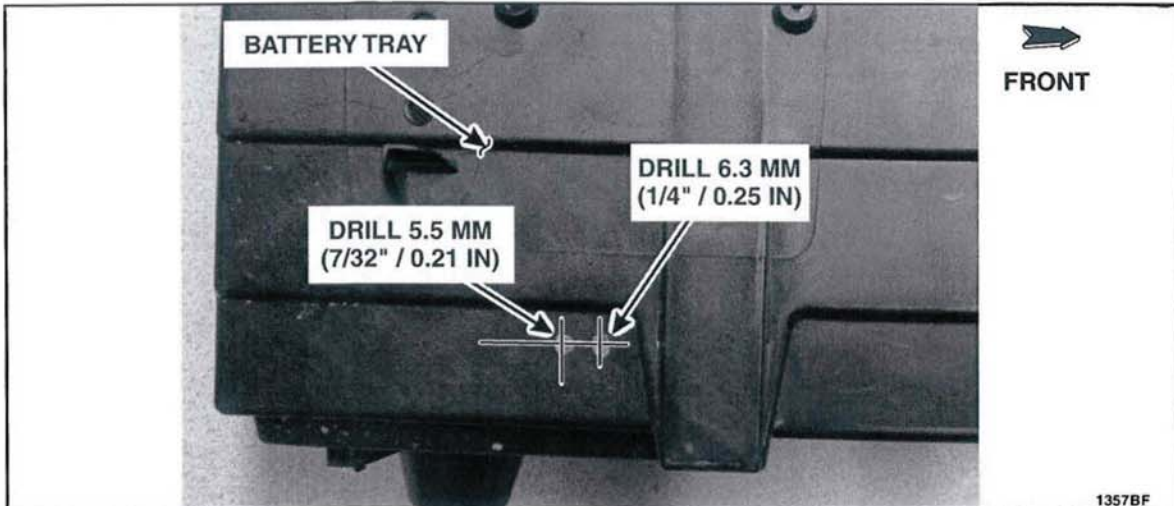

FIGURE D3
- Using the appropriate size drill bit for two (2) remaining marked locations on the battery tray, 5.5 mm (7/32" / 0.21 in) and 6.3 mm (1/4" / 0.25) as indicated in Figure D3, drill the two (2) holes. See Figure D3.